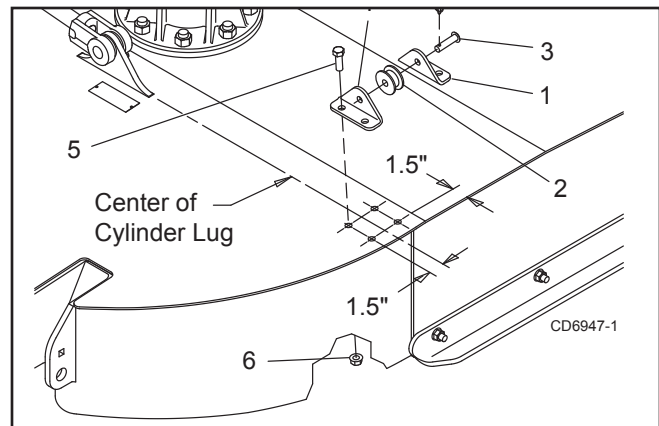

Figure 23. Roller Assembly Installation
1. Locate and drill one 9/16" hole in each wing using dimensions shown in Figure 23. Assemble items 1, 2, 3 and 4. Use assembly to locate and drill remaining holes.
2. Secure idler brackets (1) and rollers (2) to deck with bolts (5) and nuts (6).
3. Remove cylinder pin: Place channel (10) over cylinder and cylinder lug. Place wing lock-up bracket over channel and insert pin (8), washers (7), and cotter pins (9). NOTE: Washers (7) are used as spacers and are placed between lock-up bracket and channel (10) as needed.
- Repeat step to install second channel (10) on opposite wing.
- Attach winch assembly to channels (10) using bolts (5) and lock nuts (6).